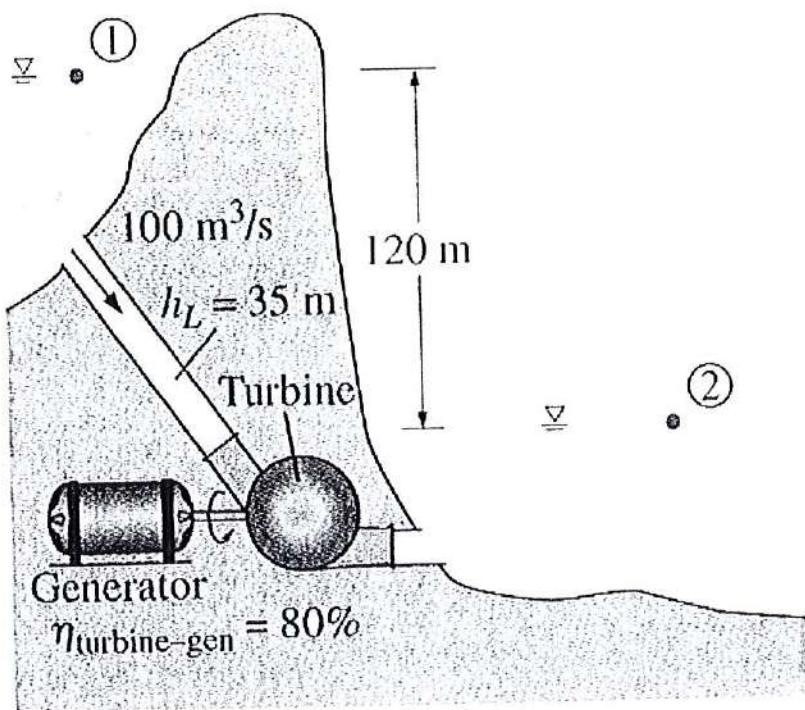

Figure 3/ Rajah 3
- c. In a hydroelectric power plant, $100\text{m}^3/\text{s}$ of water flows from an elevation of 120 m to a turbine, where electric power is generated as shown in **figure 3**, the total irreversible head loss in the piping system from point 1 to point 2 (excluding the turbine unit) is determined to be 35 m. If the overall efficiency of the turbine-generated is 80 percent, estimate the electric power output.